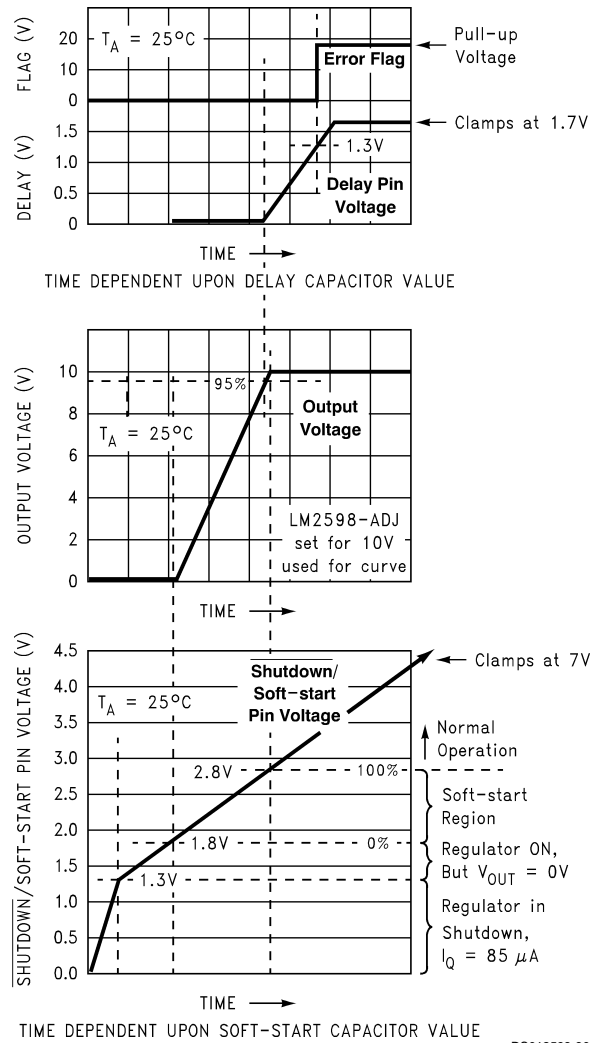
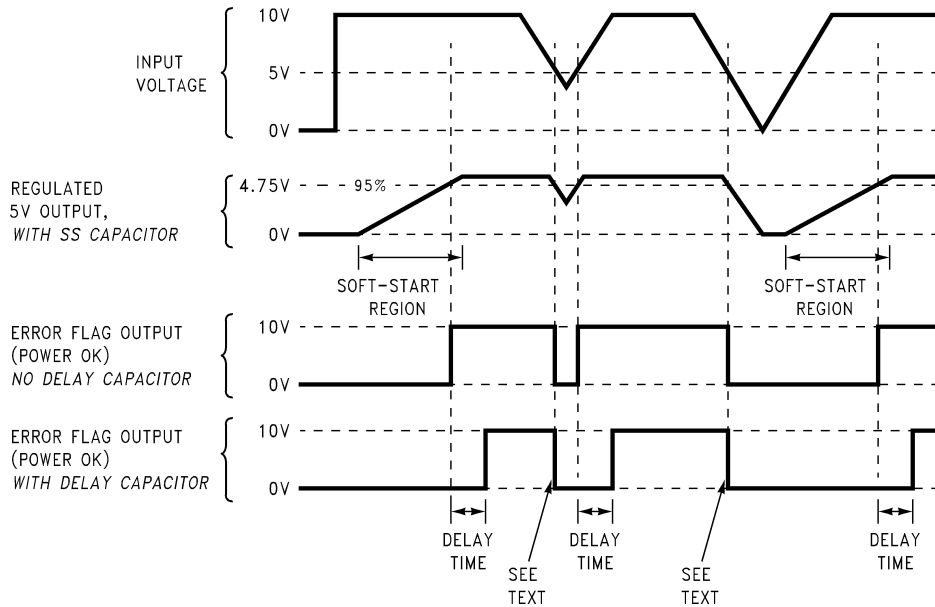

FIGURE 13. Soft-start, Delay, Error, Output
FIGURE 14. Timing Diagram for 5V Output
C_{SS} —A capacitor on this pin provides the regulator with a Soft-start feature (slow start-up). When the DC input voltage is first applied to the regulator, or when the Shutdown /Soft-start pin is allowed to go high, a constant current (approximately $5 \mu A$ begins charging this capacitor). As the capacitor voltage rises, the regulator goes through four operating regions (See the bottom curve in Figure 13).
3. Soft-start Region. When the \overline{SD} /SS pin voltage is between 1.8V and 2.8V (@ 25°C), the regulator is in a Soft-start condition. The switch (Pin 1) duty cycle initially starts out very low, with narrow pulses and gradually get wider as the capacitor \overline{SD} /SS pin ramps up towards 2.8V. As the duty cycle increases, the output voltage also increases at a controlled ramp up. See the center curve in Figure 13. The input supply current requirement also starts out at a low level for
Note: The lower curve shown in Figure 13 shows the Soft-start region from 0% to 100%. This is not the duty cycle percentage, but the output voltage percentage. Also, the Soft-start voltage range has a negative temperature coefficient associated with it. See the Soft-start curve in the electrical characteristics section.
C_{DELAY} — Provides delay for the error flag output. See the upper curve in *Figure 13*, and also refer to timing diagrams in *Figure 14*. A capacitor on this pin provides a time delay between the time the regulated output voltage (when it is increasing in value) reaches 95% of the nominal output voltage, and the time the error flag output goes high. A 3 μA constant current from the delay pin charges the delay capacitor resulting in a voltage ramp. When this voltage reaches a threshold of approximately 1.3V, the open collector error flag output (or power OK) goes high. This signal can be used to indicate that the regulated output has reached the correct voltage and has stabilized.